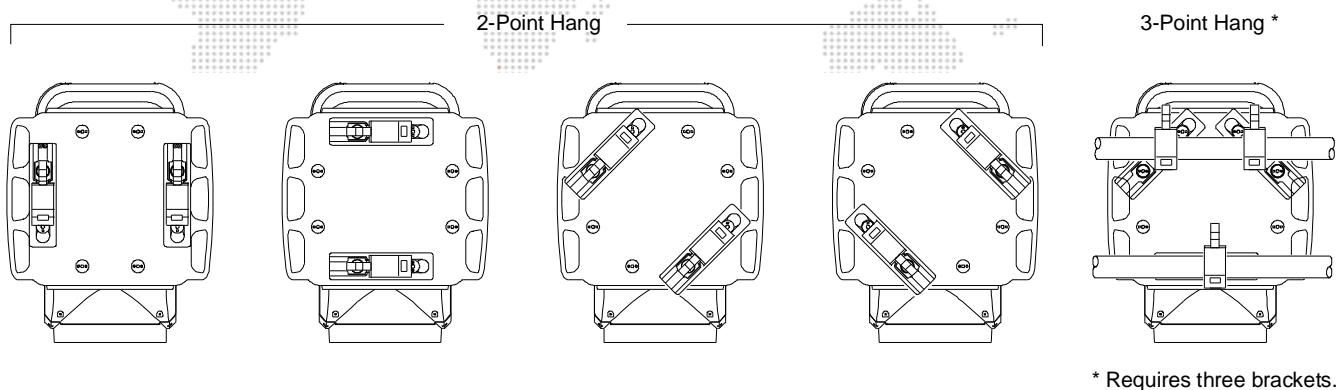

Figure 2-3: Hanging Bracket Orientations
- a. Choose orientation. Brackets may be attached in one of four positions as shown in **Figure 2-3**.